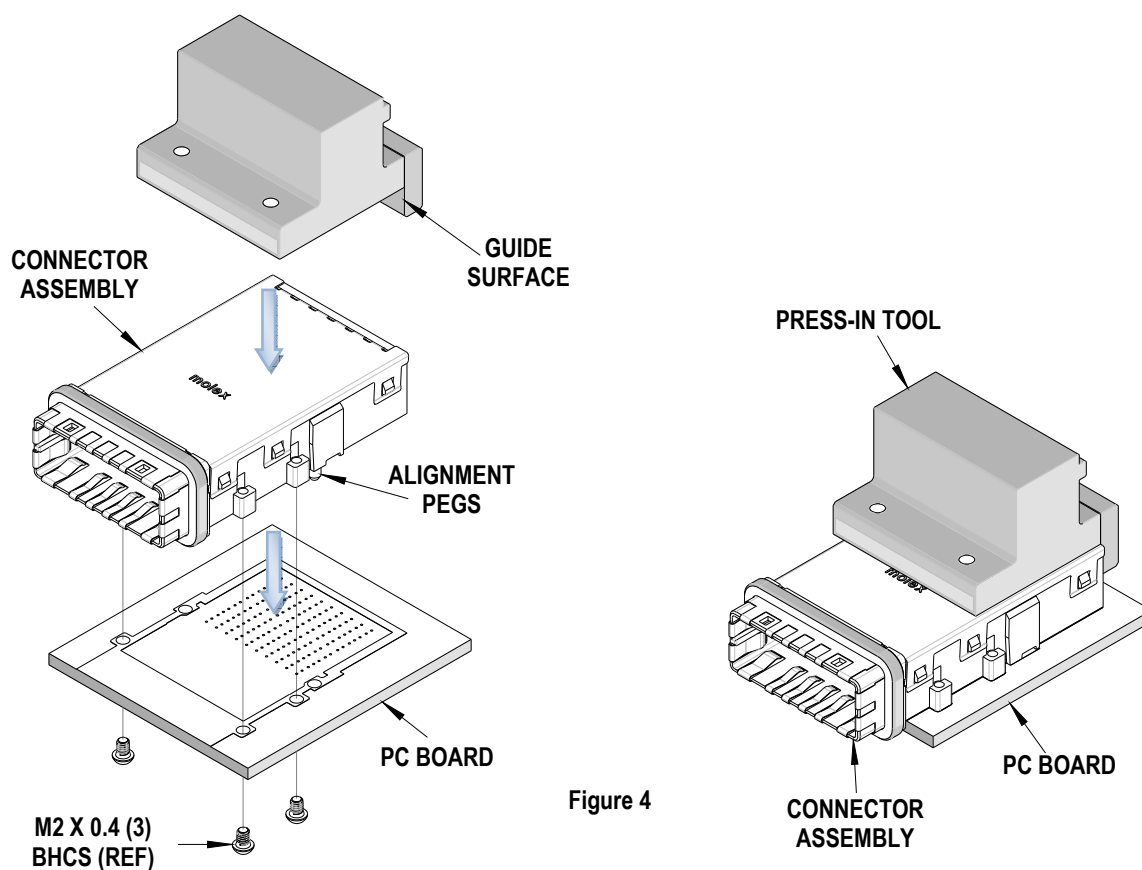

Figure 4
1. Carefully insert, by hand, the connector assembly using the alignment pegs (2) for location on the PCB.
2. Place the press-in-tool on top of the connector assembly with the back guide surface of the tool against the back of the connector assembly. See Figure 4.